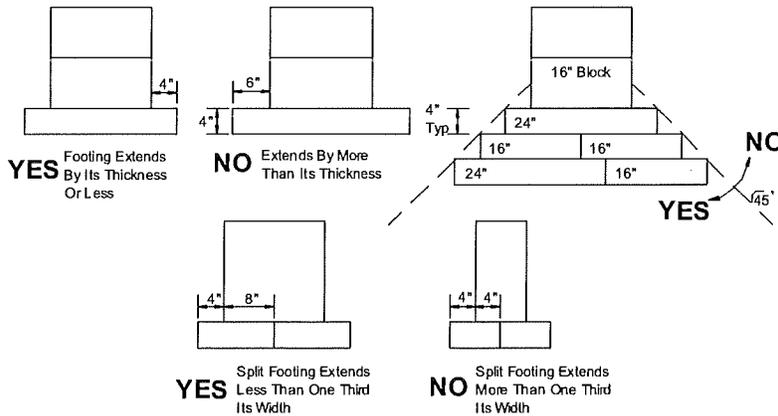

Figure 13. Maximum footing extensions
- Design footings with a footing extension (projection beyond the base of the pier) no greater than the footing thickness (Figure 13). Increase footing thickness if necessary.